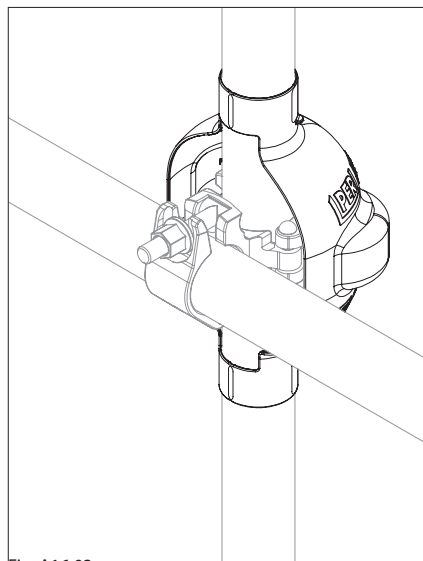

Fig. A16.03c
4. In case of crossing tubes, mount 2x poly covers UPC-C overlapping on one or both tubes. (Fig. A16.03c + A16.03d)